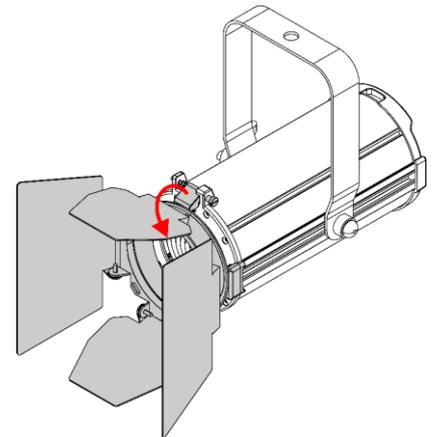

Fig. 09
- 03) Pull the **color frame clip (02)** downwards to release the **spring-loaded screw (01)** (see Fig. 09). The barndoor will be locked in position.